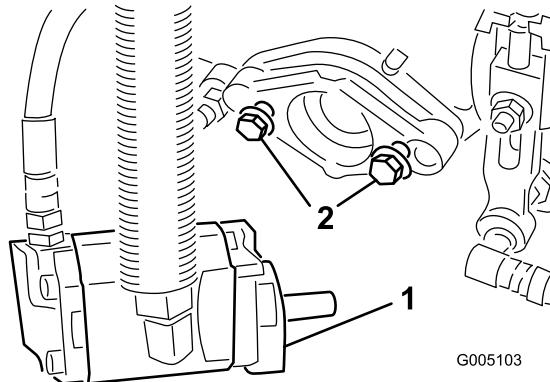

Figure 14
inch (13 mm) of threads exposed on each mounting bolt (Figure 14).
11. Tighten the mounting bolts (Figure 14).